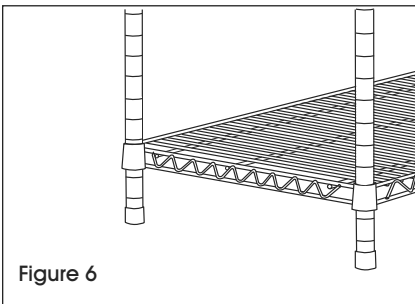

Figure 6
3. Stand unit upright. Gently tap shelf down to secure. (See Figure 6)